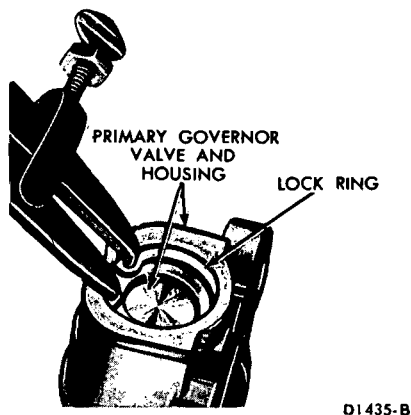

FIG. 100—Removing or Installing Retaining Ring
3. Remove the primary governor valve retaining ring (Fig. 100). Remove the washer, spring, and primary governor valve from the housing.